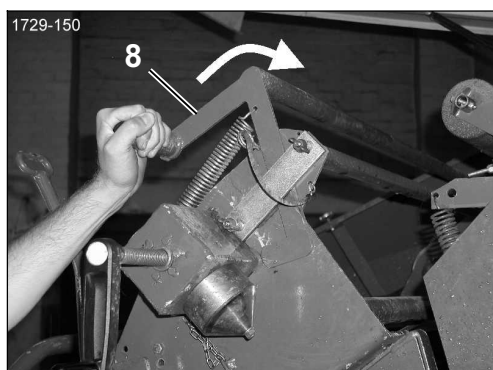

Figure 35
- ❑ (Figure 35) Slide net tightener [8] back and secure with cotter pin.
- (Figure 35) Remove cotter pin from the net tightener and swivel net tightener to the front.